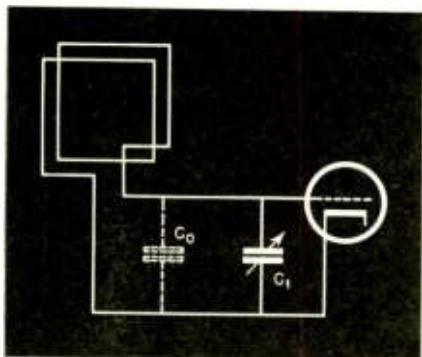

Fig 4. High impedance loop circuit
These factors alone are not all that need be considered in the design of a high-impedance loop. The large number of turns required increases the distributed capacity of the winding which in turn decreases the Q of the loop. A high distributed capacitance plus high-capacity connecting leads also limits the tuneable frequency range of the circuit. The frequency range is determined by the percent capacity change in the circuit. This is shown in Fig. 4 and equation (2) where  $C_o$  = circuit capacity (including distributed